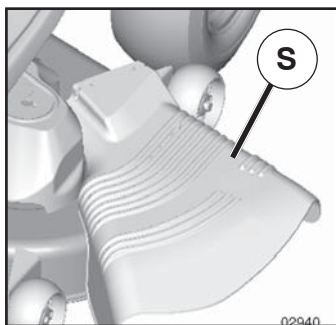

Fig. 11
**CAUTION:** Do not operate the mower without either the entire grass catcher, on mowers so equipped, or the deflector shield (S) in place (See Fig. 11).